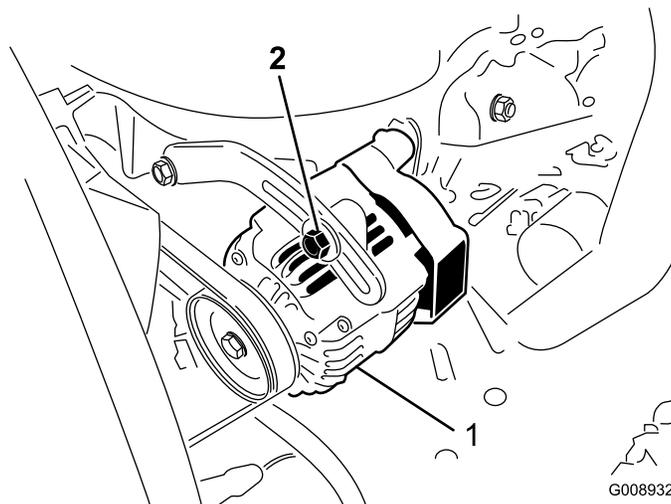

Figure 52
Check the condition and tension of the belts (Figure 52) after every 100 operating hours.
2. If the deflection is not 10 mm (3/8 inch), loosen the alternator mounting bolts (Figure 52). Increase or decrease the alternator belt tension and tighten the bolts. Check the deflection of the belt again to ensure that the tension is correct.